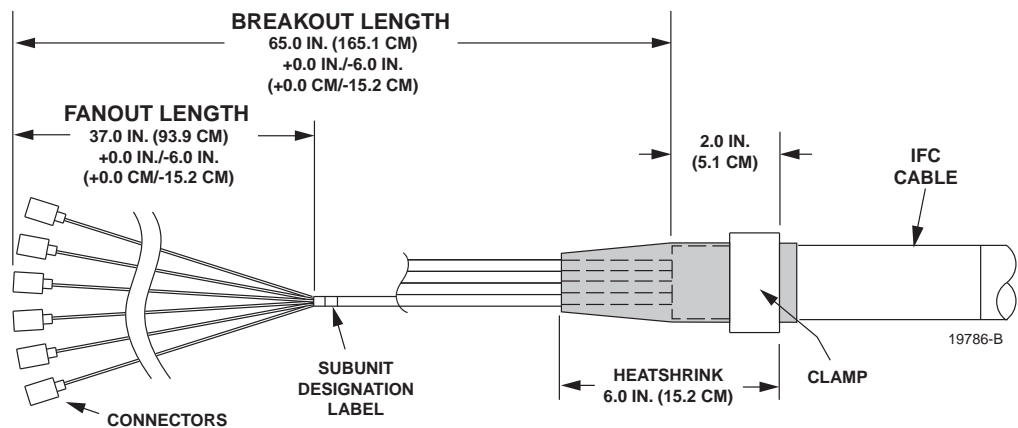
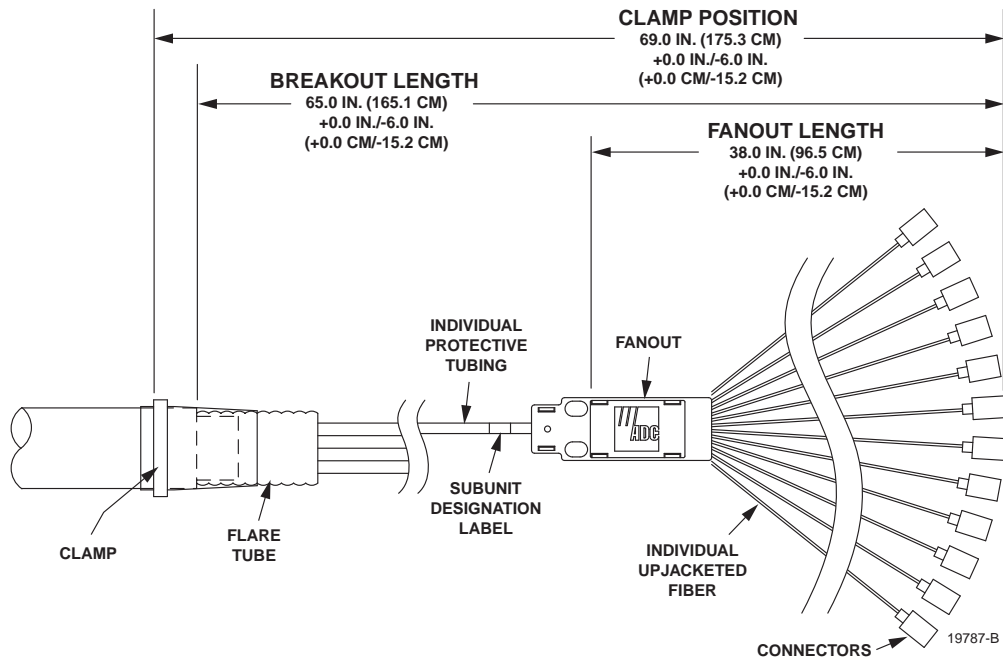

Figure 20. Breakout Dimensions for Stranded Cable Routed to Standard Termination Panel
Figure 21. Breakout Cable Dimensions for Ribbon Cable Routed to Standard Termination Panel
1. Break out the cable according to the dimensions provided in Figure 20 (stranded cable) or Figure 21 (ribbon cable). For ribbon cable, install protective tubing, fanouts, and upjackets in the locations shown.
- **Note:** Position the cable clamp on the cable at the point indicated in the cable breakout diagrams. For ribbon cable, refer to Figure 20. For stranded cable, refer to Figure 21.